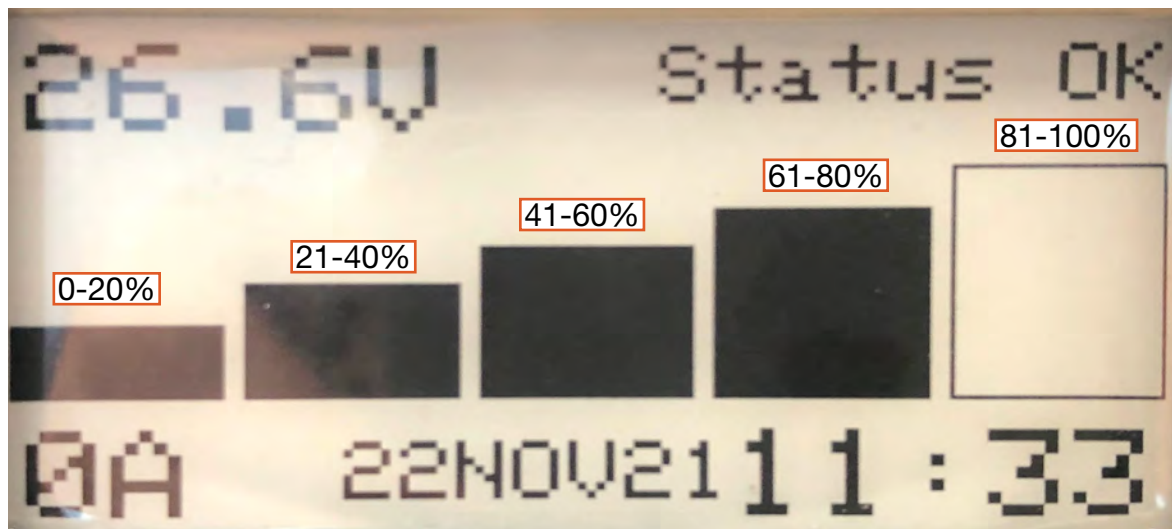
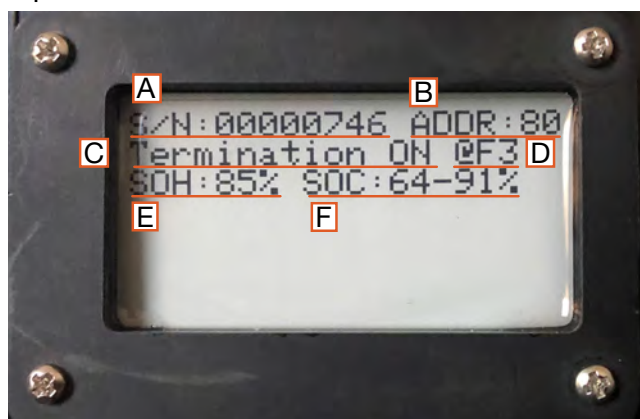

Figure 8. Battery Status Indicator SOC 5-segment report
Figure 18. Battery Status Indicator diagnostic screen
The BMS State of Charge (SOC) algorithm is based on a combination of open-circuit cell voltages, coulomb counting, and other cell-level telemetry. The algorithm computes and reports SOC for the entire battery on the Battery Status Indicator in five (5) segments or bars that fill/empty as the ESM charges/discharges respectively. The SOC reported in Figure 8 is somewhere between 60 and 80%. When the battery is charged to 81%, the fifth bar will fill completely. A numerical SOC report can be found on the diagnostic screen (see Figure 18 on page 25).
Figure 18 is an example of the information on the diagnostic screen that is present when the ESM 2000 is operating normally. The SOC value range will narrow as the battery cycles.